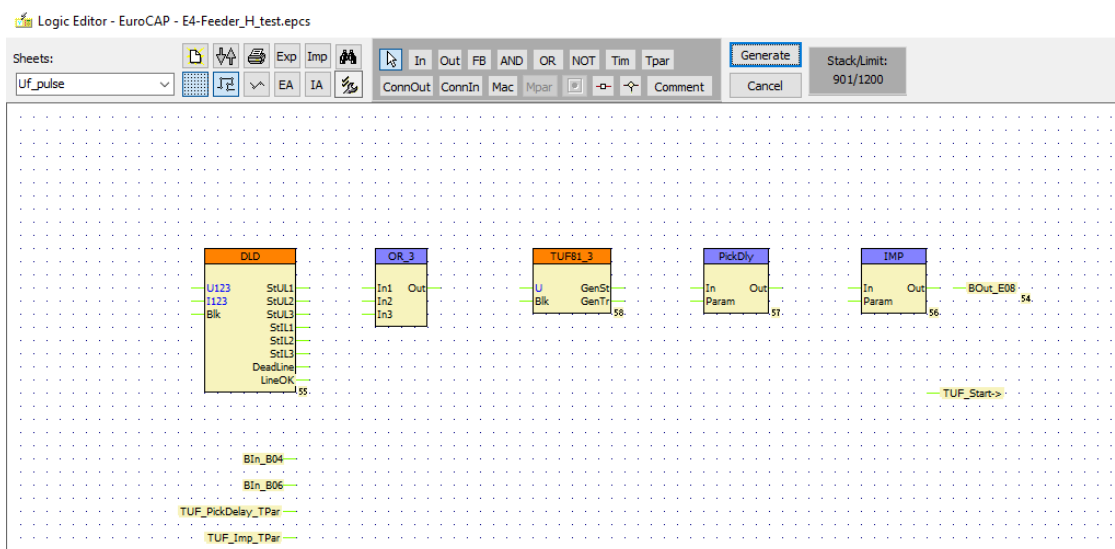

Figure 6-9 Example for placing the elements on an empty sheet
- The equation needs two binary inputs and one binary output. Select them using the   icon. The selected inputs are “BIn_B04” and “Bin_B06” found on the dropdown list, the selected output is “Bout_E08” (See Figure 6-9). It is also possible to put down more inputs or connector inputs at the same time with the use of Shift or Ctrl keys in the input selection and in the connector input selection windows.
The result of these steps is shown in Figure 6-9. Here the icon  is depressed: the grid is visible on the sheet. The location of the elements can be altered using the drag-and-drop technique.
As Figure 6-9 shows, the elements placed have green connection points. Draw a line by clicking on a green start point, clicking on the required corners and clicking on the green end point. A finished line and corners can be rearranged using the drag-and-drop technique. (The line can also be deleted.)